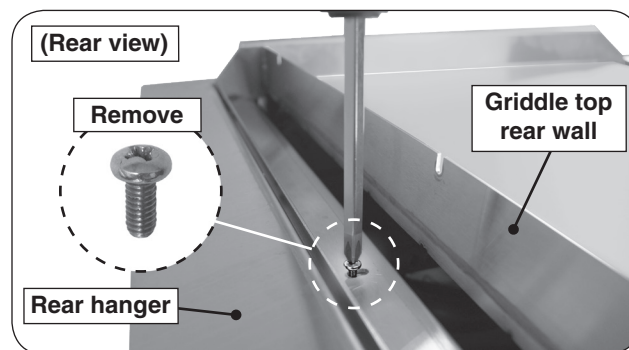

Fig. 32-2 Rear screw removal
2. Locate the screw found on rear of the griddle top and remove (see Fig. 32-2).